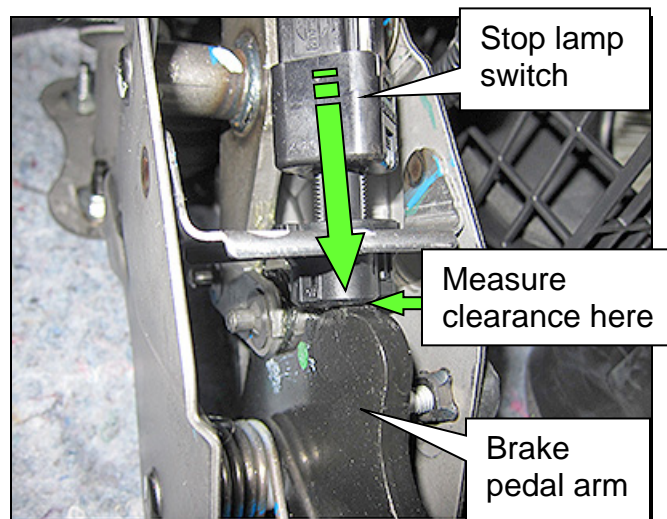

Figure 9
2. While unlocked, gently push the stop lamp switch until its black plastic body contacts the brake pedal arm (Figure 9).
4. Confirm the clearance between brake pedal arm and black plastic body of the stop lamp switch (Figure 9); readjust as necessary.